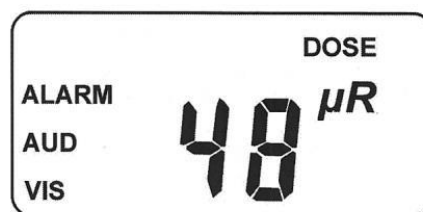

Figure 3 – The Dose Display
- Press the **[DOSE]** key to switch to Dose Mode. In Dose Mode the word **DOSE** is displayed at the top right of the screen (Figure 3)